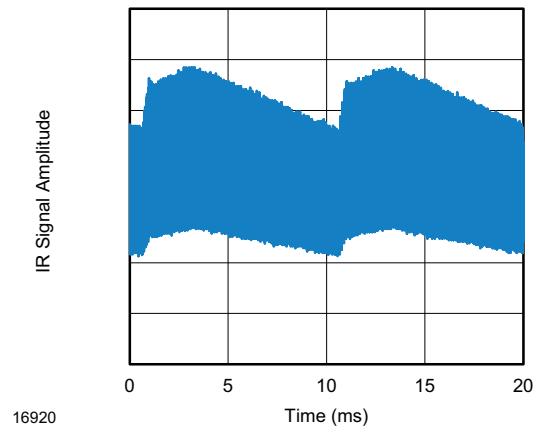
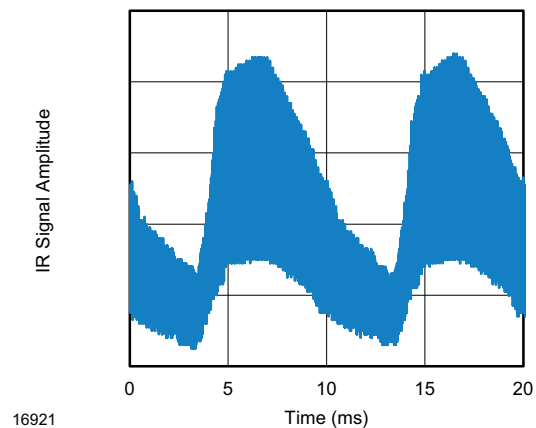

Fig. 14 - IR Disturbance from Fluorescent Lamp With Low Modulation
Fig. 15 - IR Disturbance from Fluorescent Lamp With High Modulation
- Strongly or weakly modulated noise from fluorescent lamps with electronic ballasts (see Fig. 14 or Fig. 15)